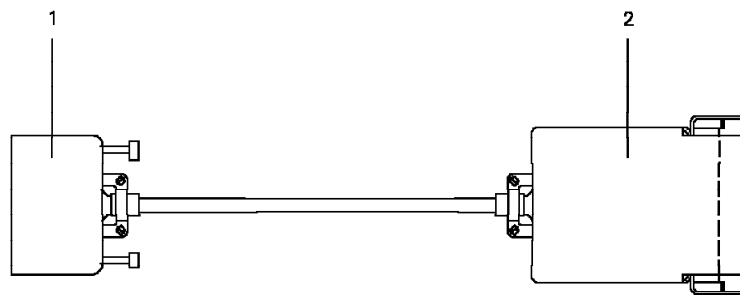

Figure 8-19. Adapter for ARC 3B (PN 65X9899)
2. If you are connecting a **V.35 DTE (ARC 3B)** to a **French terminal**, connect one adapter (PN 65X9899) between the terminal and the cable (see Figure 8-19). Connect **connector 1** to the **cable** and **connector 2** to the **terminal**.